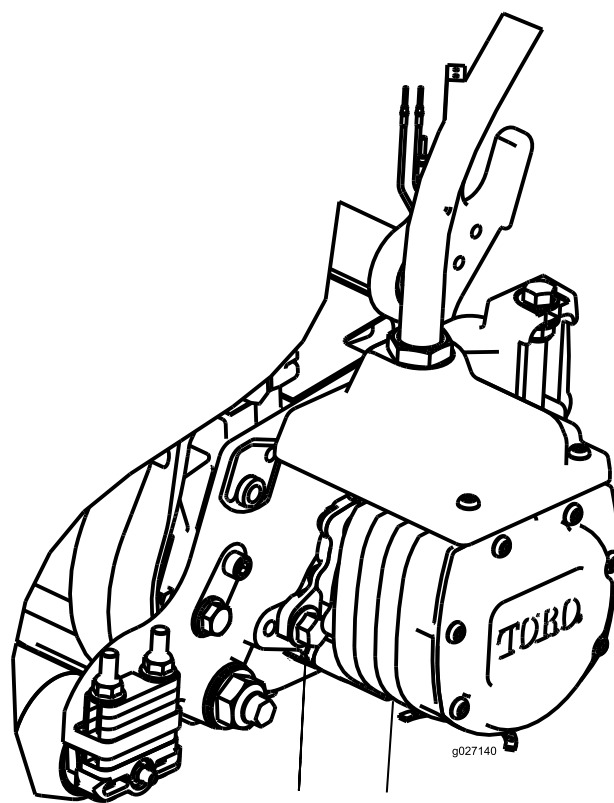

Figure 10
14. Install the motor by rotating it clockwise so that the motor flanges clear the bolts (Figure 10).